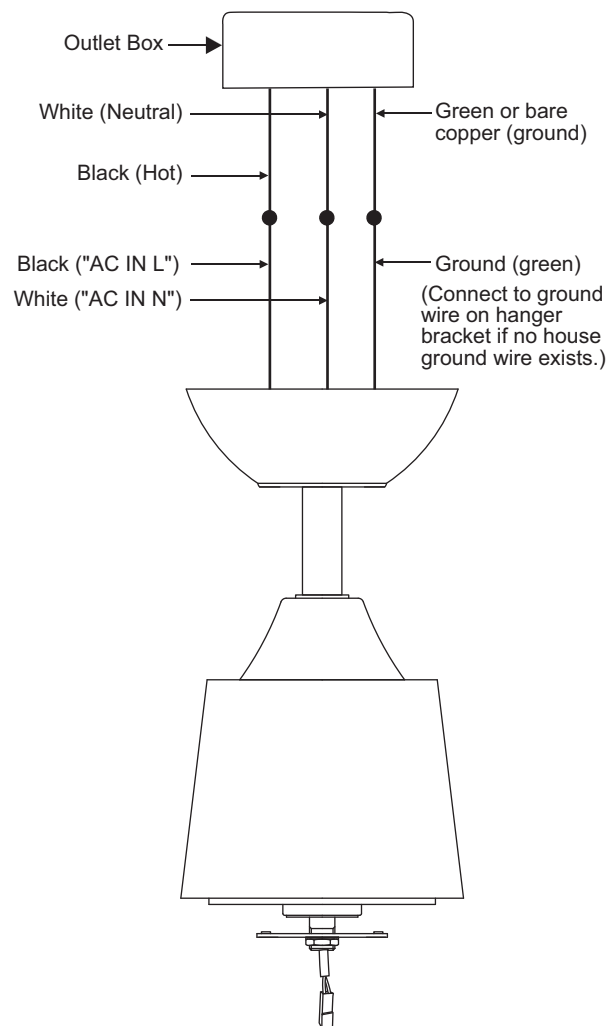

Figure 10
Step 1. Motor to House Supply Wires Electrical Connections: Connect the WHITE wire (Neutral) from the outlet box to the WHITE wire marked "AC in N" from the motor. (Fig. 10)
Step 2. Connect the BLACK wire (Hot) from the outlet box to the BLACK wire marked "AC in L" from the motor. (Fig. 10)
Step 3. (Figure 10) If your outlet box has a ground wire (green or bare copper) connect it to the fan ground wires; otherwise connect the hanging bracket ground wire to the mounting bracket. Secure the wire connection with a plastic nut provided. After connecting the wires, spread them apart so that the green and white wires are on one side of the outlet box and black and blue wires are on the other side. Carefully tuck the wire connections up into the outlet box.